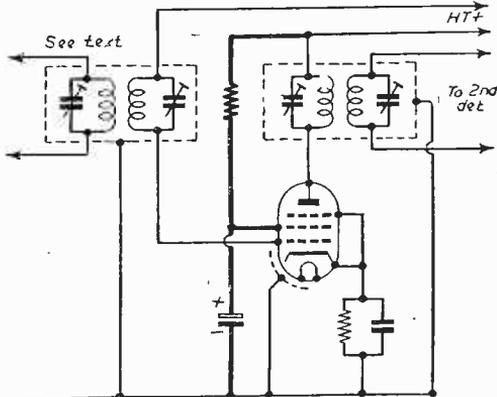

Fig. 4.—Decoupling the screen-grid of an I.F. stage.
**Intermediate Frequency Amplifier (Fig. 4)**